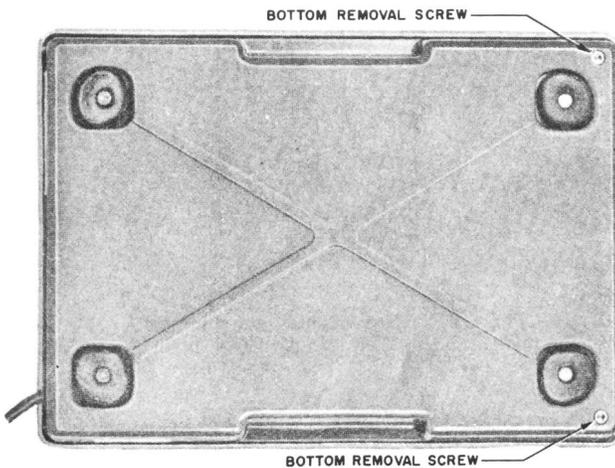

Fig. 4 — Location of Bottom Removal Screws
- 1.09** Cover removal of the 2A telephone answering set is shown in Fig. 4, 5, and 6.